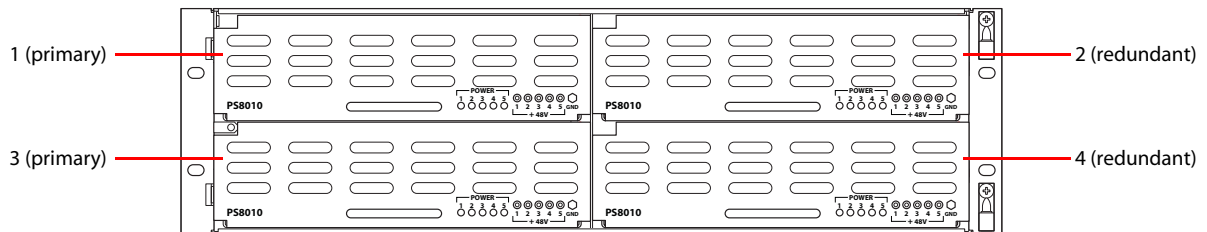

Figure 2-39. NV8000 Power Supply (Front View)
- a At the front of the NV8000, install *primary* PS8100 power supply modules in slots 1 and 3, as shown in Figure 2-39.
- b Optionally, install *redundant* PS8100 power supply modules in slots 2 and 4, as shown in Figure 2-39.